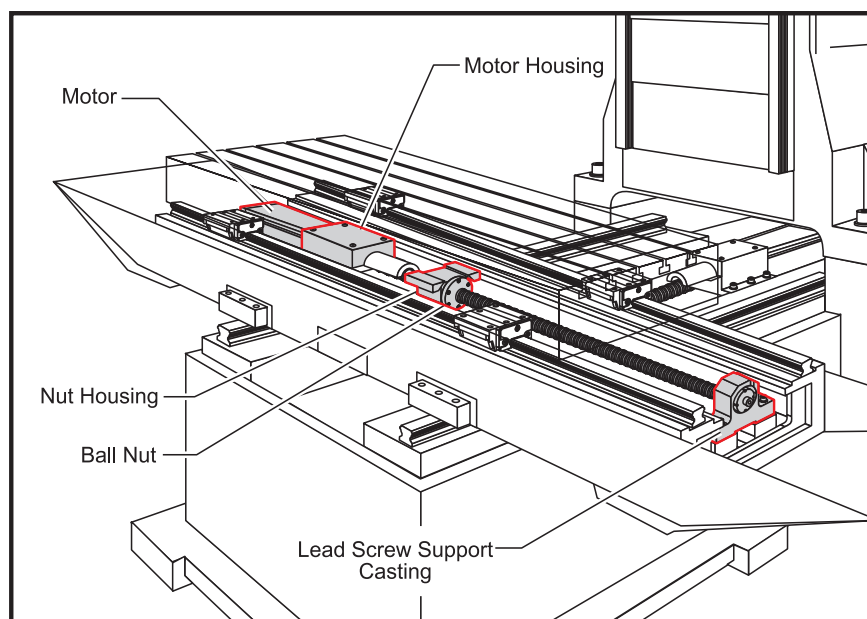

Figure 3.9-3 Install lead screw from right side.
3. Insert the lead screw through the nut housing and motor housing (See Fig. 3.9-3), taking care not to make contact with the screw threads, which will cause possible damage.